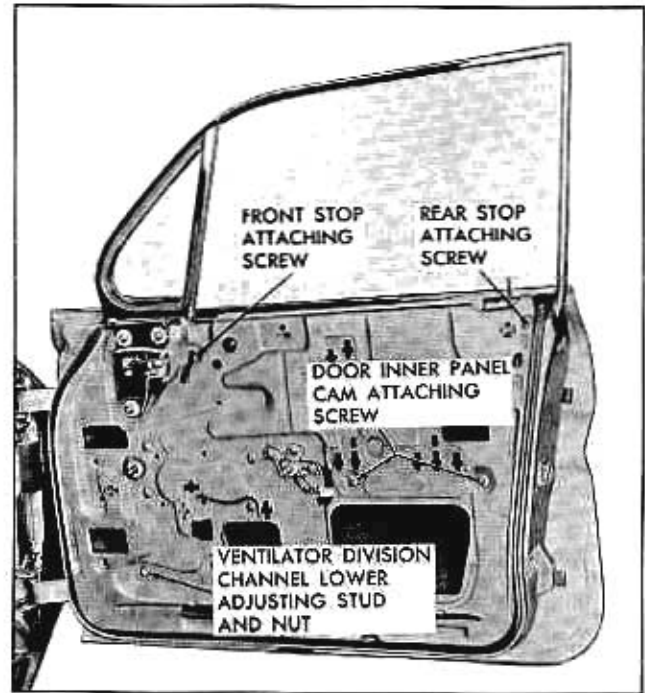

Fig. 2-22 Front Door Inner Panel—Hard Tops
2. Through holes in inner panel, remove screw securing window assembly front and rear stops to lower window sash channel. Then lower window slightly and remove stops (See Fig. 2-22).